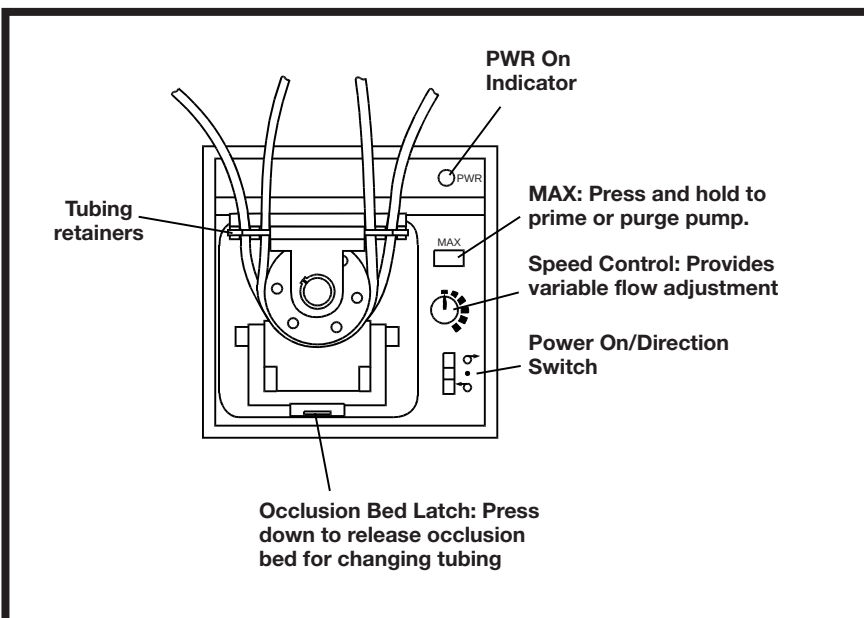

Figure 2. Pump — Front Panel
The **single-turn, adjustable Speed Control**, *Figure 2*, provides variable flow - operation. The green PWR On indicator lights whenever the pump is operating. The Power On/Direction Switch turns power on when either clockwise or counterclockwise pump rotor direction is selected. The MAX Button is used for priming and purging and operates the pump at maximum speed while depressed.
1. Place the **Power On/Direction Switch**, *Figure 2*, in the center (Off) position.